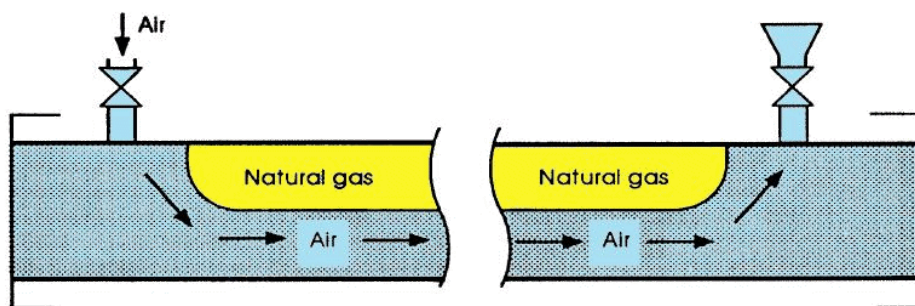
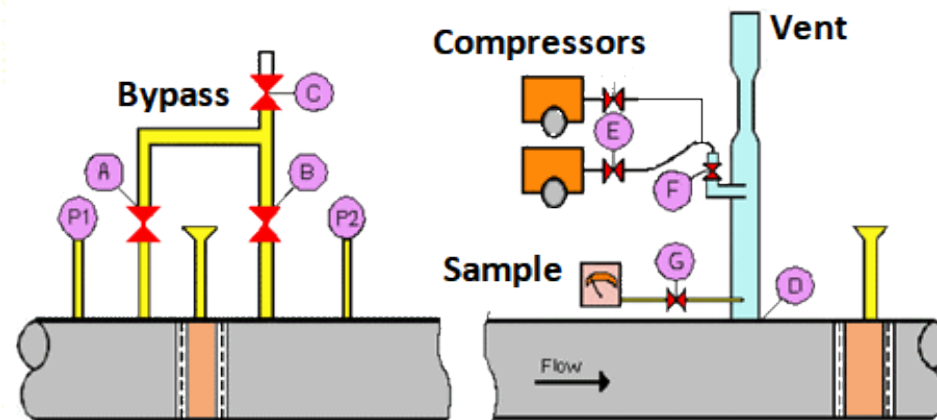

Figure 101- Slow Air Purging Causes Stratification and a Poor Purge
Figure 103- De-commissioning Using a 6" or 10" Purge Ejector
3. Using the correct velocity will prevent stratification see Figure 101.
7. The purge may be carried out using a compressor to push the gas out of a purge vent pipe (see Figure 101) or using a purge ejector to draw the gas out, see Figure 103.
3. Close and decommission the bypass by closing valves A and B and opening valve C, see Figure 103.